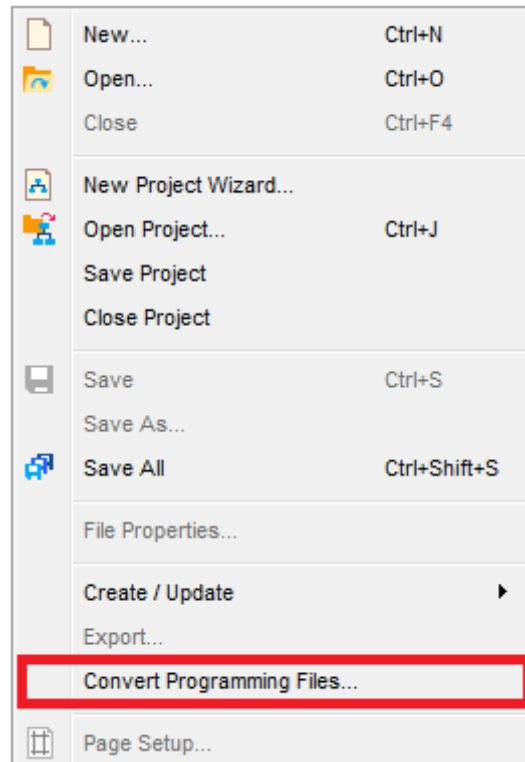

Figure 8-2 File menu of Quartus II
1. Choose **Convert Programming** Files from the File menu of Quartus II, as shown in **Figure 8-2**.